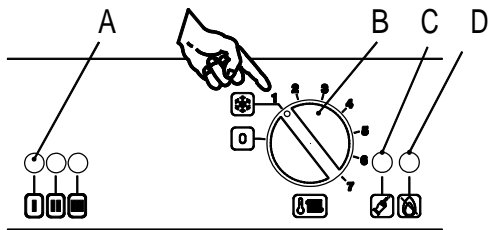

Figure 5.2
- 2 Turn on the electricity supply to the boiler, switching on the circuit breaker. The appliance operation light A (figure 5.2) will flash every 4 seconds (stand-by condition).
- 3 If the boiler is to be used for c.h position the function selector B as in figure 5.2. The appliance operation light A will flash every 2 seconds (operating boiler).
- The appliance operation light A (figure5.2) will flash every 4 seconds (stand-by mode).